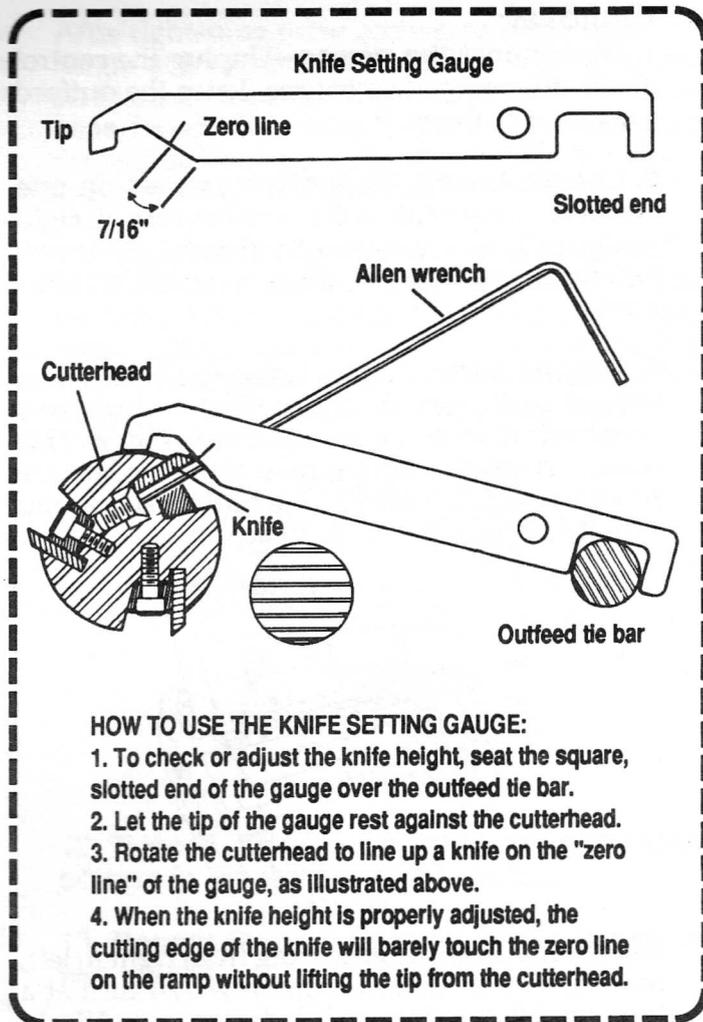

Fig. 64
**4. Check the height of one knife** - Use the knife setting gauge supplied with the planer to check the height of the knives. Use an awl to scribe a line, on both sides of the gauge, perpendicular to the ramp angle of the gauge, 7/16" from the lower corner of the ramp. This is the zero setting line, as shown in Fig. 64. Place the square slotted end of the gauge over the right end of the outfeed tie bar, and let the tip of the gauge rest on the cutterhead. The knife will be positioned between the tip and the angled ramp. Turn the cutterhead to position a knife under the angled ramp of the gauge, as in Fig. 64.
Using the wrench as a lever, slowly rock the cutterhead back and forth so that the knife passes under the ramp of the gauge. If the knife height is correct, the cutting edge will touch the ramp at the mark without lifting the tip of the gauge from the cutterhead. See Figs. 64 and 65.